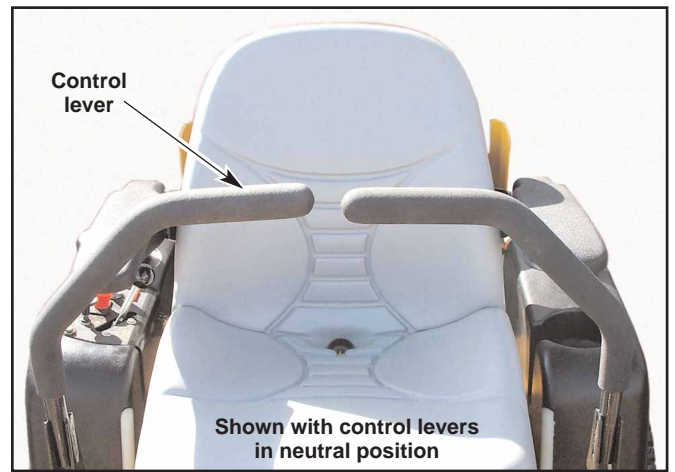

Figure 3-2
- A. Control levers (Fig. 3-2 & 3-3)** — these levers control the tractor's speed, direction, neutral lock, and park brake. Levers are used to steer, accelerate, decelerate and change direction. When the control levers are in the park brake position (3-3) the tractor will not move when the engine is on and drive pumps are operating.